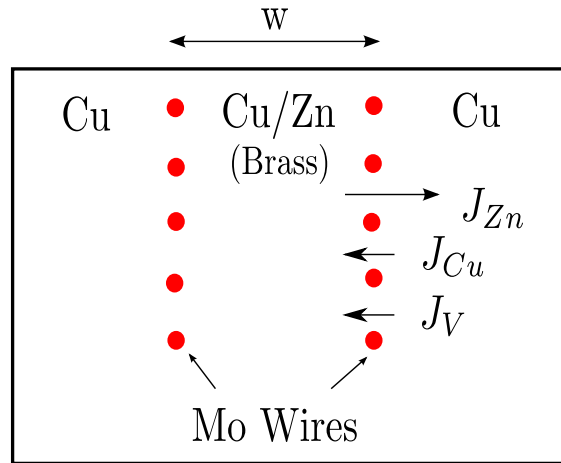

Figure 4.1: Experimental Geometry for the Kirkendall experiment.
3) A diffusion couple including inert wires was made by plating pure copper on to a block of α -brass with $X_{Zn} = 0.3$, as shown in Figure 4.1. After 56 days at 785 °C the marker velocity was 2.6×10^{-8} mm/s, with a composition at the markers of $X_{Zn} = 0.22$, and a composition gradient, $\partial X_{Zn} / \partial z$ of 0.089 mm^{-1} . A detailed analysis of the data gives $\tilde{D} = 4.5 \times 10^{-13} \text{ m}^2/\text{s}$ for $X_{Zn} = 0.22$. Use these data to calculate D_{Zn} and D_{Cu} for $X_{Zn} = 0.22$. How would you expect D_{Zn} , D_{Cu} and \tilde{D} to vary as a function of composition?